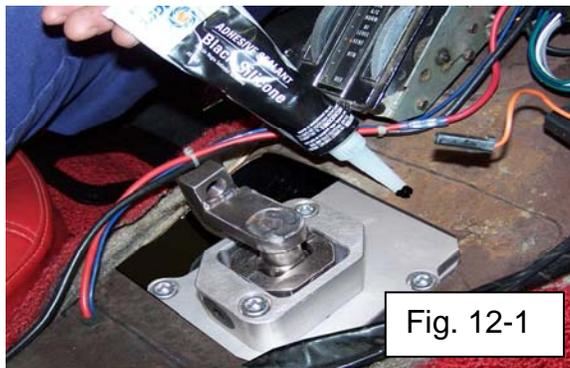

Fig. 12-1
- a. Apply bead of Permatex Black Silicon Adhesive Sealant #81158 (or equivalent) to top surface of tunnel console within the previously marked outline of patch panel. See Fig 12-1. Press patch panel into place to form tight bond with tunnel.